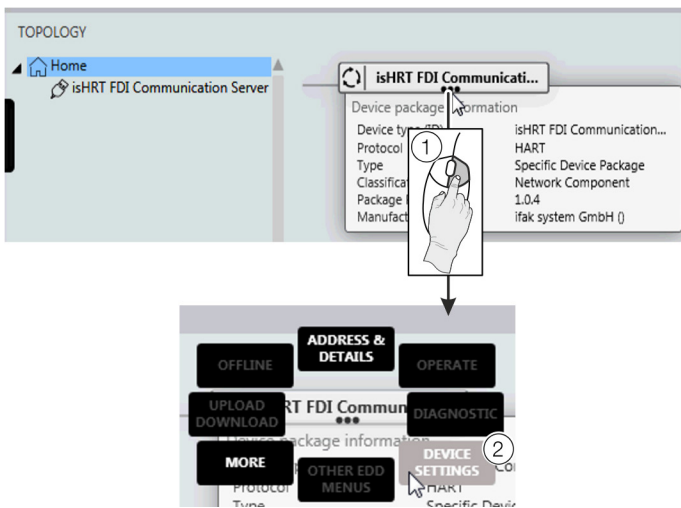

Figure 53: Select FIM – 'Device Settings'
6. Right-click ① as shown in **Figure 53**.
7. Select 'DEVICES SETTINGS' ② as shown in **Figure 53**.